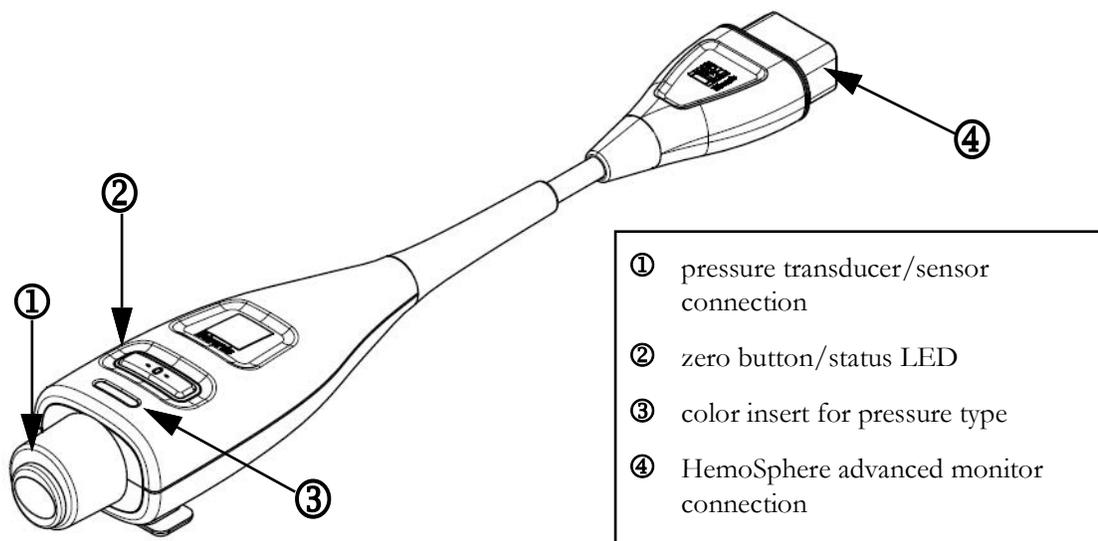

Figure 10-1 HemoSphere pressure cable
The HemoSphere pressure cable is a reusable device that connects with the HemoSphere monitor on one end ④ and any approved single Edwards disposable pressure transducer (DPT) or sensor on the other end ①. See figure 10-1 on page 184. The HemoSphere pressure cable acquires and processes a single pressure signal from a compatible Edwards DPT, such as the TruWave DPT, or a FloTrac sensor. A FloTrac or Acumen IQ sensor connects to an existing arterial catheter to provide minimally-invasive hemodynamic parameters. A TruWave transducer can connect to any compatible pressure monitoring catheter to provide location based intravascular pressure. Refer to the directions for use provided with each catheter for specific instructions on catheter placement and use, and for relevant warnings, cautions and notes. The HemoSphere pressure cable can be monitored through two technology monitoring modes based on the paired sensor/transducer: **FloTrac**, **FloTrac Jr**, or **Acumen IQ** sensor monitoring mode or **Swan-Ganz** catheter monitoring mode. The monitoring mode appears on the top of the navigation bar (see figure 5-2 on page 94). The appearance and connection points for the HemoSphere pressure cable are shown in figure 10-1.
Pressure Type Color Insert. If desired, the appropriate color insert can be used on the pressure cable to indicate the monitored pressure type. See ③ in figure 10-1 below. The colors are as follows:
- Red for arterial pressure (AP)
- Green for cardiac output (CO)
- 7 Use a straight in or out motion to connect the green connector of the primed FloTrac/FloTrac Jr sensor. The pressure cable LED that surrounds the zero button (see ② in figure 10-1) will flash green indicating that the pressure sensor is detected. A yellow light indicates a fault condition. If this occurs refer to the status bar for specific fault condition details.
Press the physical zero button  directly on the pressure cable and hold for three seconds (see figure 10-1).